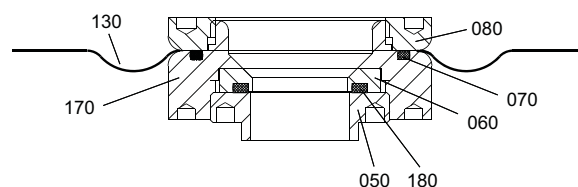

Fig. 5 Position of diaphragm
1. Unscrew the diaphragm ring (pos. 80, fig. 5).
2. Check O-ring (70), replace O-ring if necessary.
3. Remove diaphragm (130).